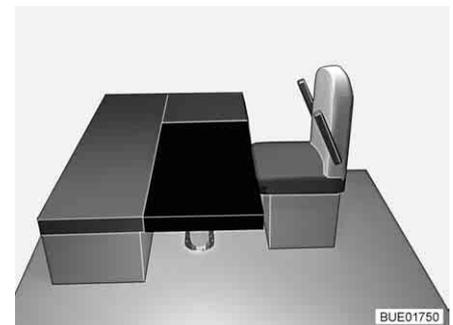

Fig. 116 After conversion
- Place the rectangular additional cushion on the table (in front of the seat cushions of the bench, see Fig. 116).